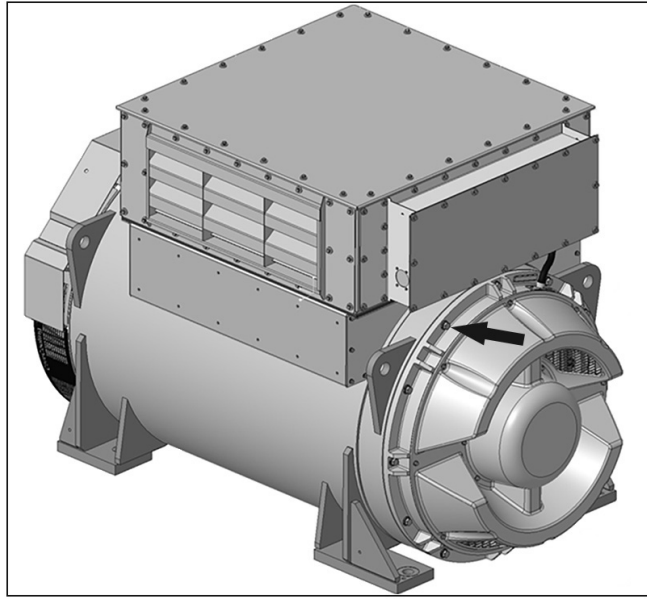

FIGURE 14. AIR INLET COVER REMOVAL AND FITTING INSTRUCTIONS
1. Remove the air inlet cover by loosening the 14 x M8 bolts to gain access to the rotor transit support screws. Refer to: Figure 14 on page 25.
1. Remove the air inlet cover to gain access to the rotor transit support blanking screws. Refer to: Figure 14 on page 25.